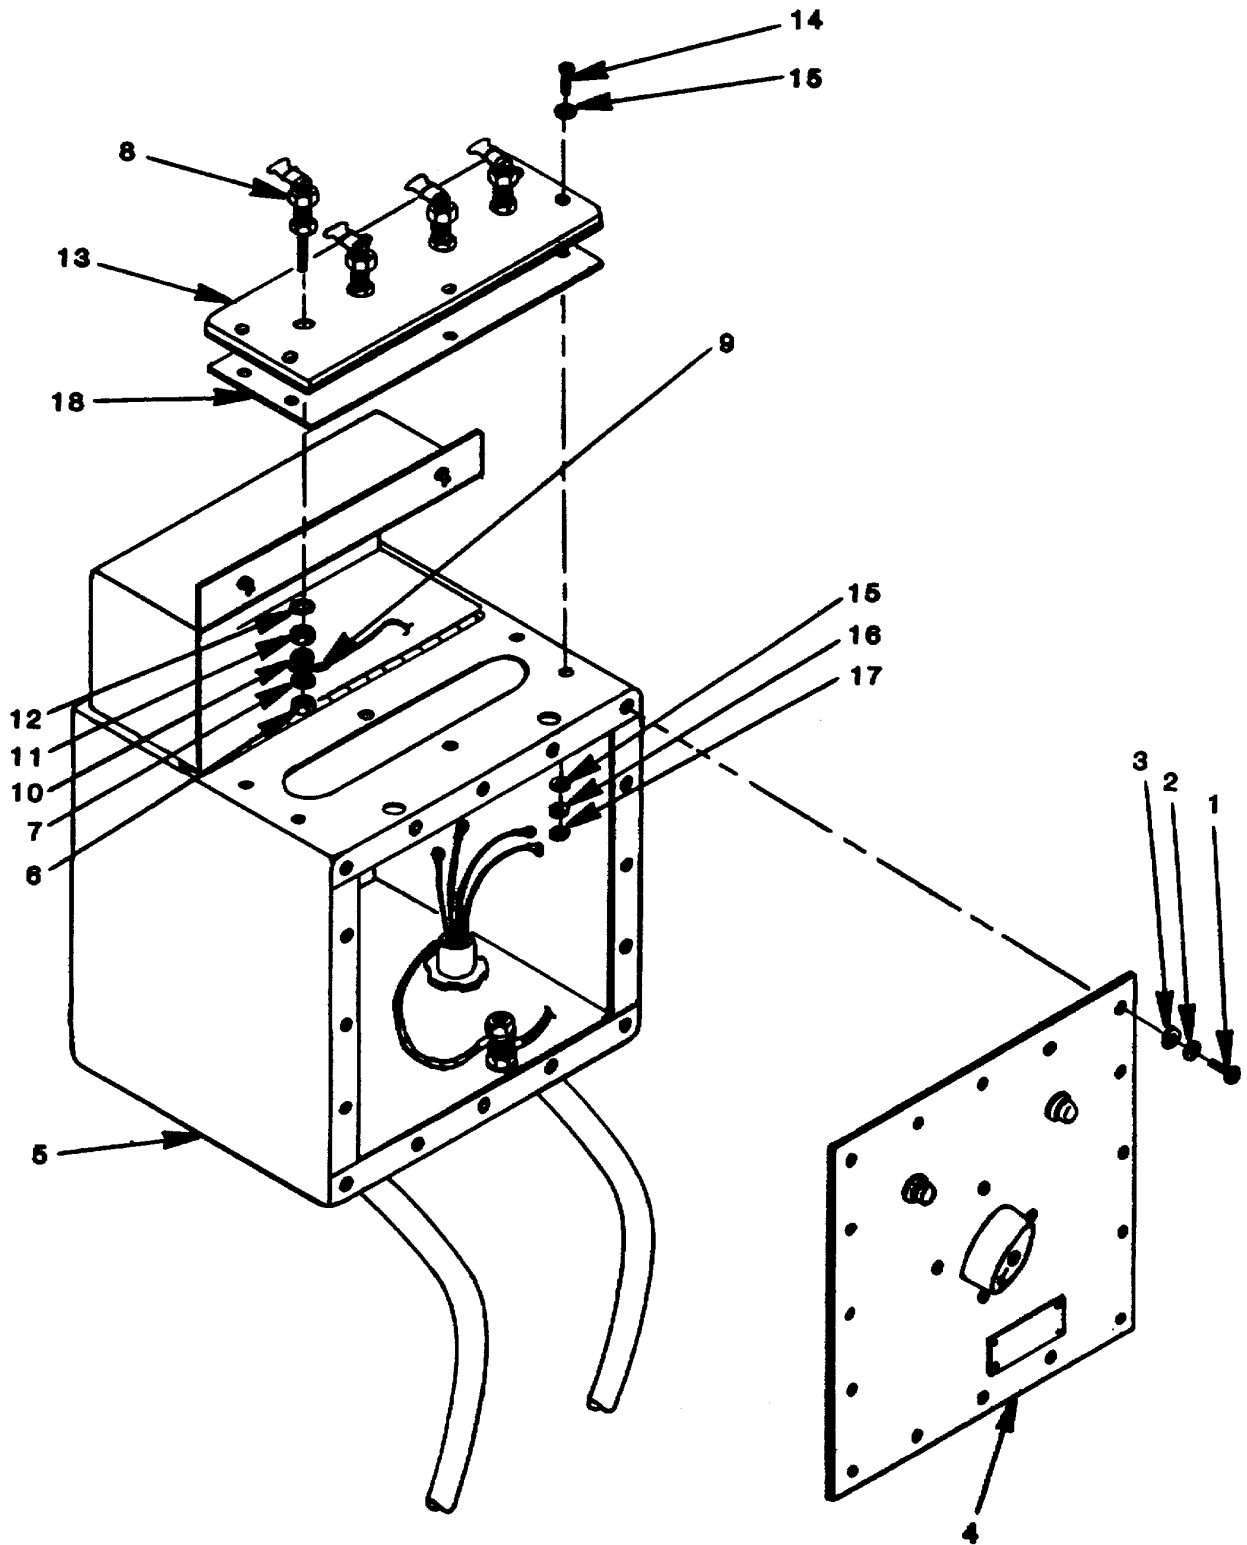

Figure 4-7. Load Terminal/Terminal Board Replacement.
- (1) Remove 16 screws (1, figure 4-7), lockwashers (2), and flat washers (3) securing cover (4) to switch box (5) and take cover off switch box.